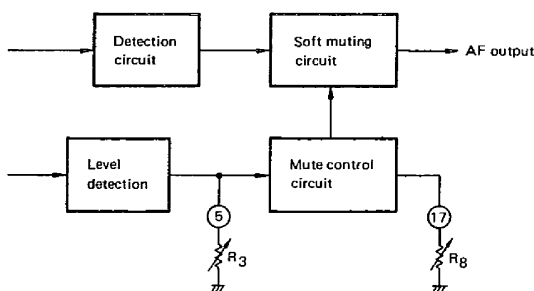

Fig. 1 Muting Operation Principle Block Diagram
As shown in Fig. 1, the level detection output current proportioned to carrier input level is flowed to pin (5).